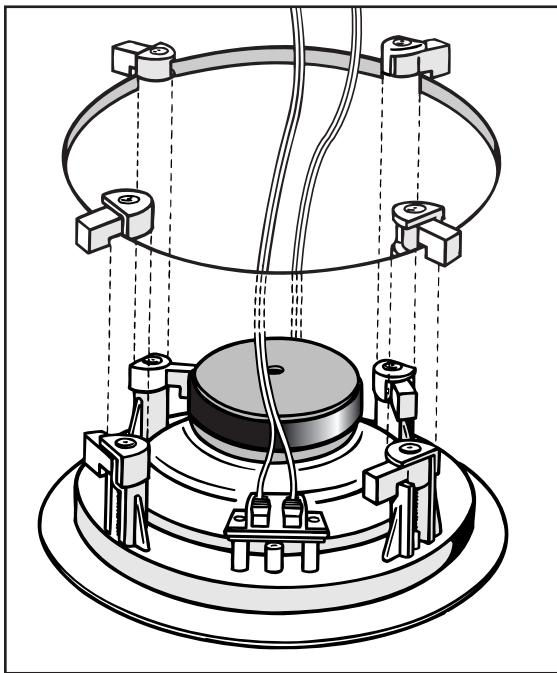

FIG. 5
6. See Fig. 5. With the speaker wire attached to the speaker, slide the speaker up inside the cut-out hole. Center the speaker in the cut-out hole and turn the four locking screws counterclockwise until the speaker is drawn up snugly to the wall board from behind, clamping the speaker in place. Try to tighten each screw equally. Replace the speaker grill by gently pressing it into place.